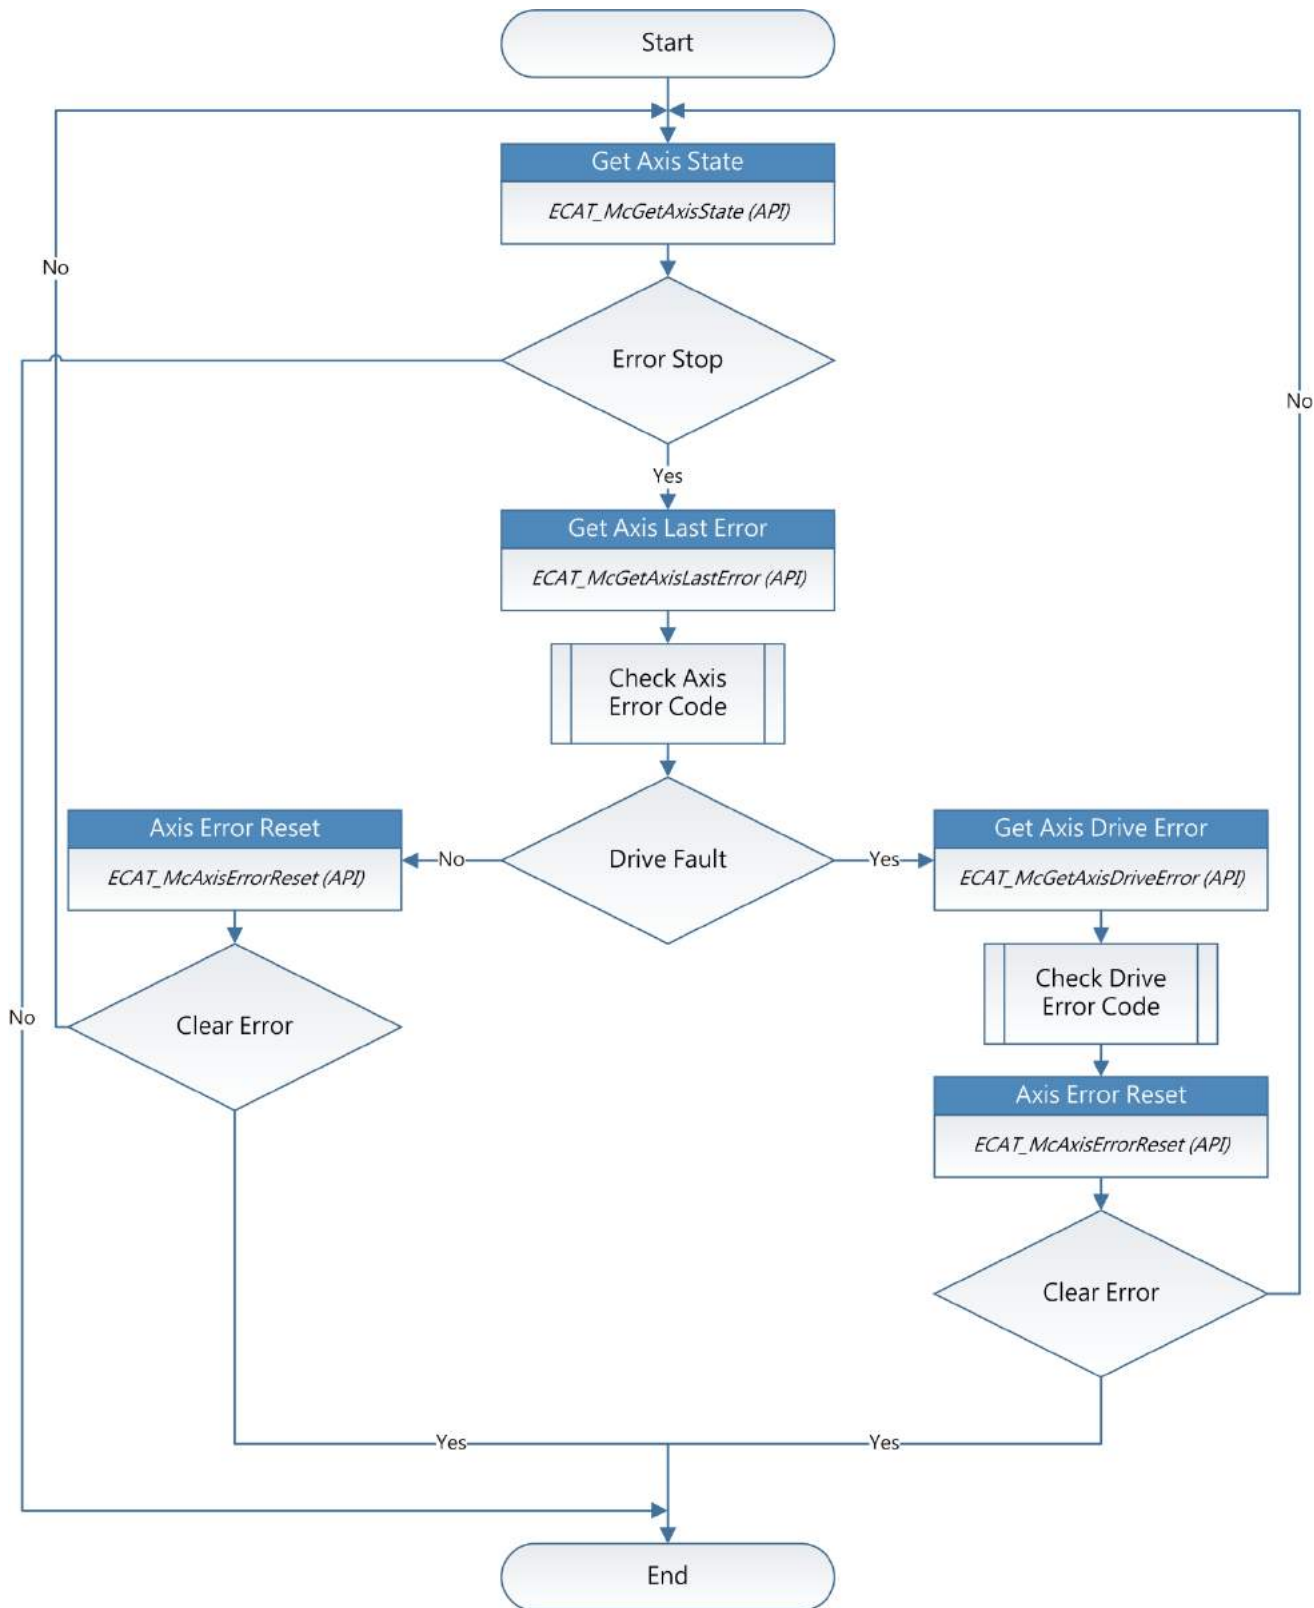

Figure 4.6
As shown in Figure 4.6, when the axis state is `ErrorStop`, `McGetAxisLastError` function can be used to get the error code. From the error code, the cause of error can be determined. The error handling includes two parts: (1) If the error is not a servo drive error, the user can call `McAxisErrorReset` to clear the error. The axis state will be changed from `ErrorStop` to `Standstill`. (2) If the error comes from a servo drive, `McGetAxisDriveError` function can be called to get the drive's error code, and then call `McAxisErrorReset` to clear its error. Some servo drive errors can be cleared by the reset command; but some cannot. If the reset command does not change the axis state back to `Standstill`, please restart (turn the power off than on) the servo drive to clear its error.